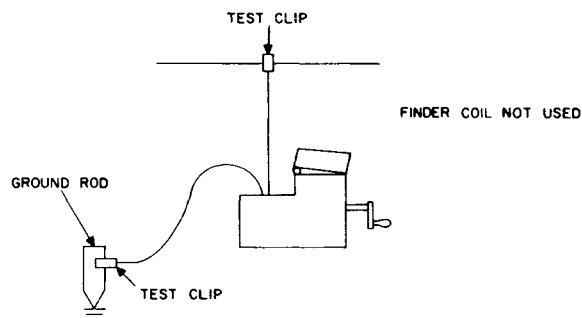

Figure 15. Connection for insulation - resistance between line wire and earth.
6.6.1. To test insulation resistance of a wire with respect to earth ground, attach one test clip to the wire being tested. DO NOT pierce the insulation with the needle point. Attach the other test clip to a ground rod (figure 15). Proceed as in b. of paragraph 6.6.